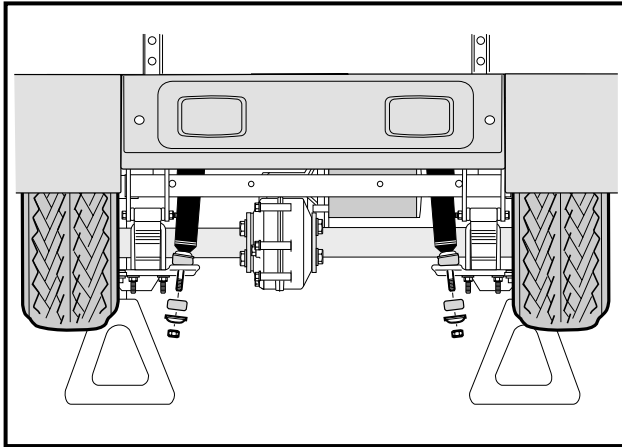
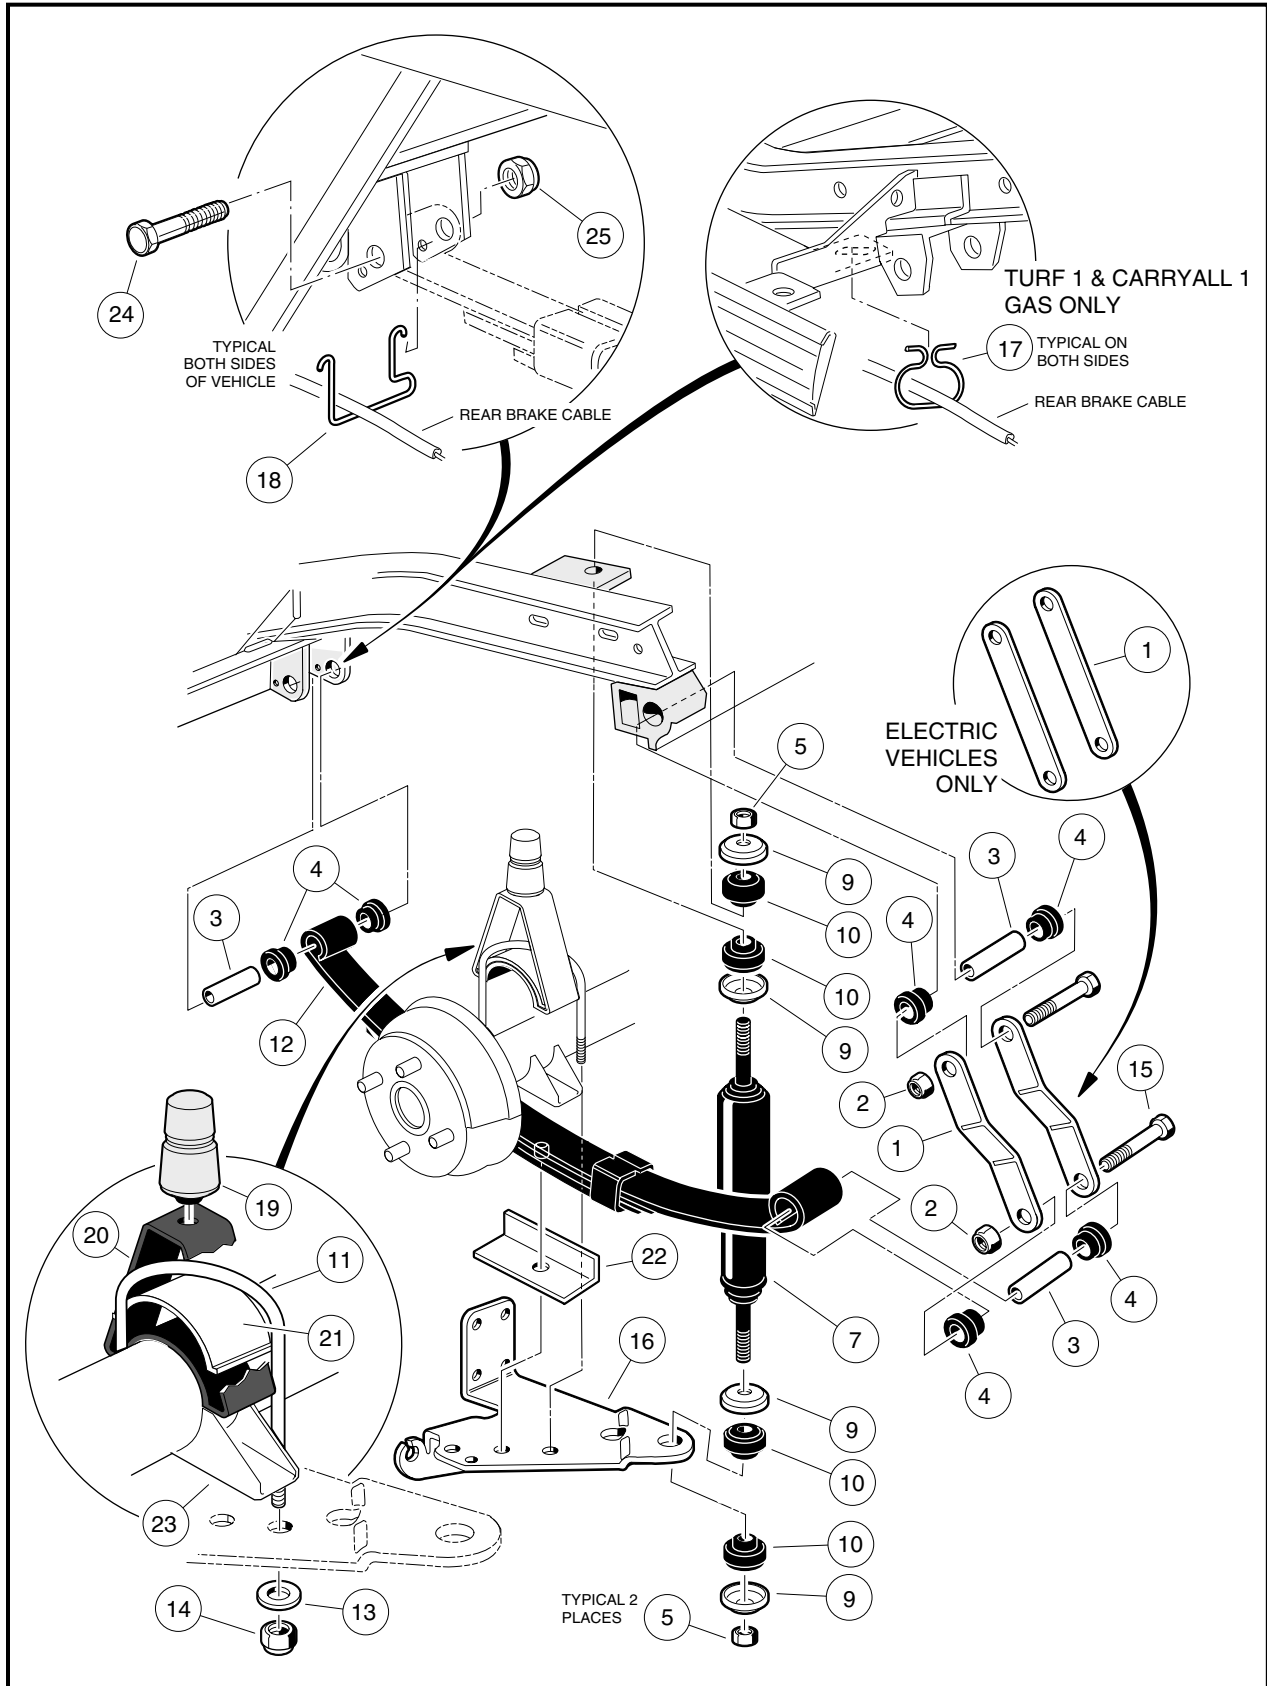
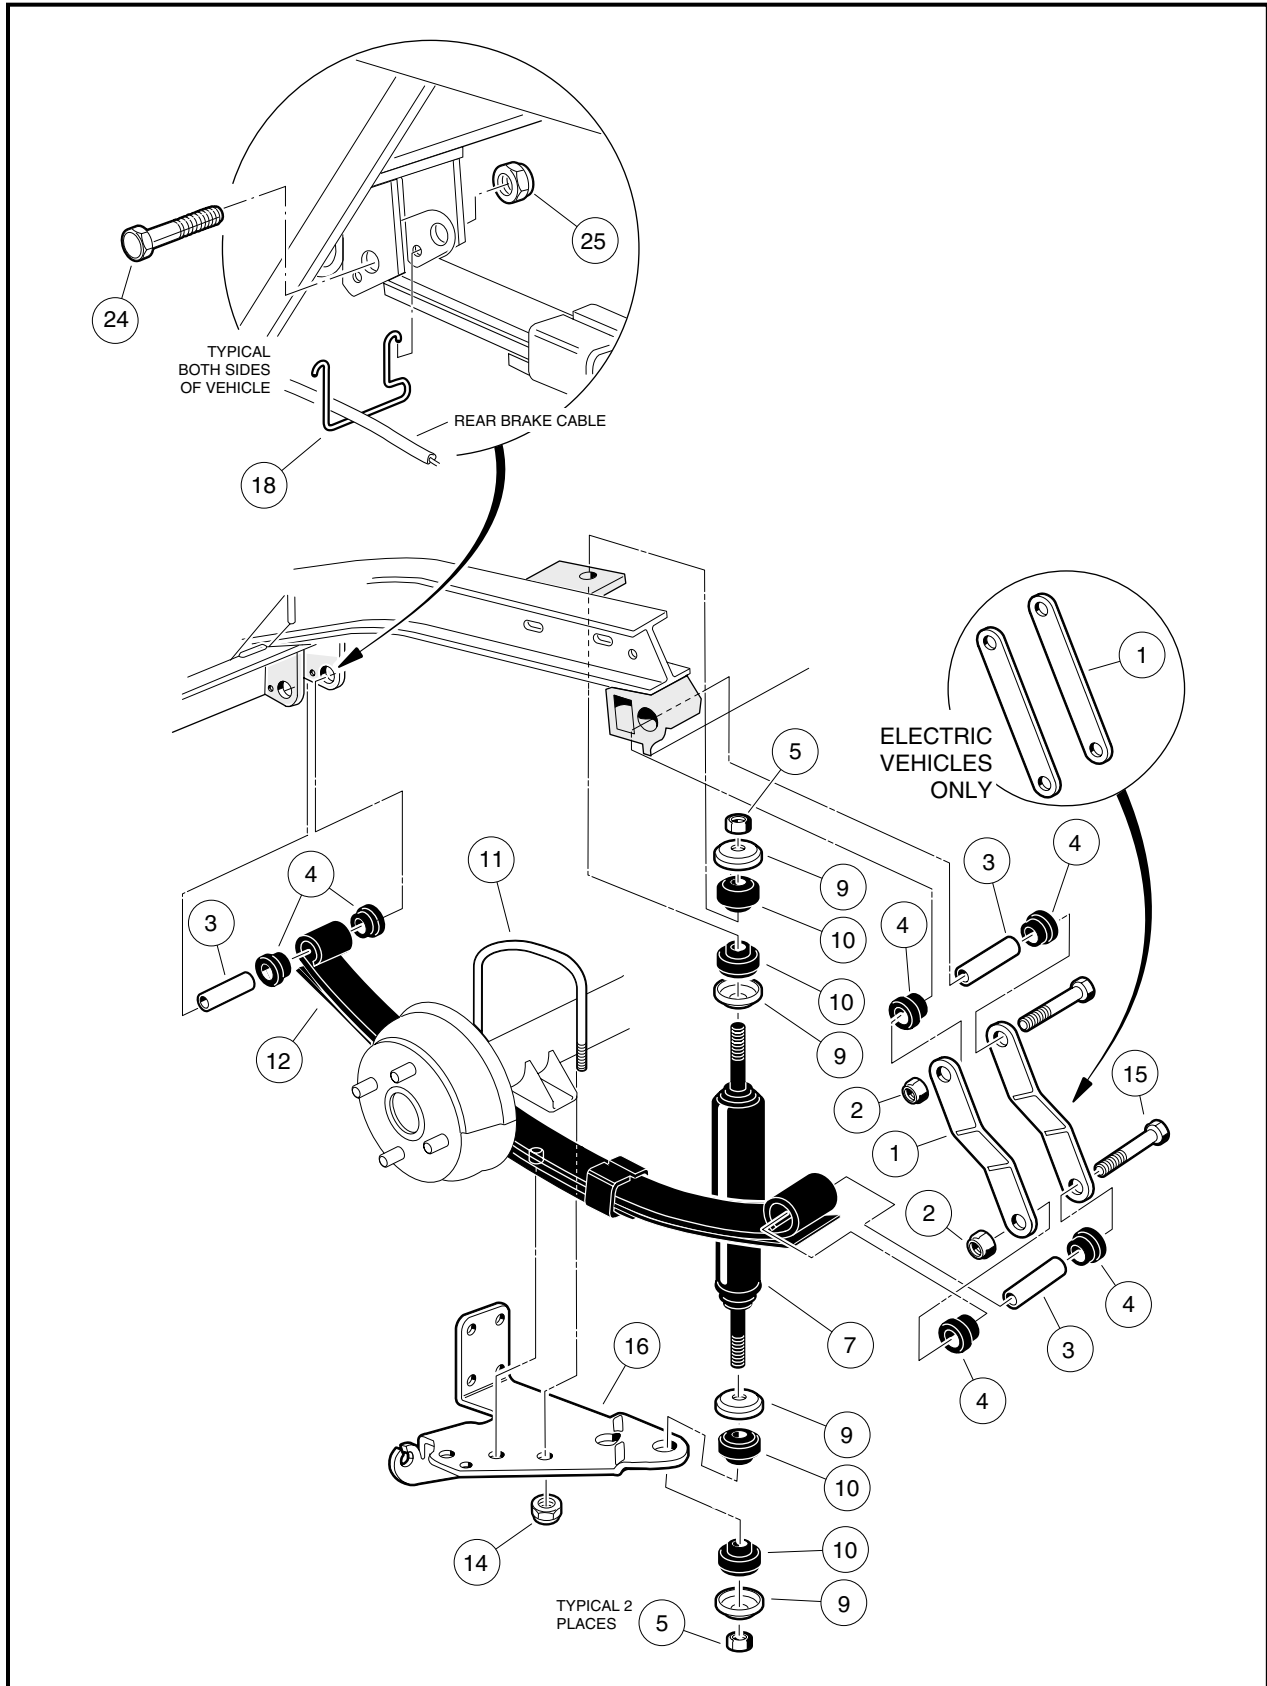

Figure 9-1 Remove Shock Absorbers
Figure 9-3 Rear Suspension – Turf 1 and Carryall 1 Vehicles
Figure 9-4 Rear Suspension – All Turf and Carryall Vehicles Except Turf 1 and Carryall 1
1. Check shock absorbers (7) for damage and fluid leakage around the lower housing of the shock absorber body. Replace damaged or leaking shock absorbers (**Figure 9-3, Page 9-6 or Figure 9-4, Page 9-7**).
2. To remove a shock absorber (7), remove the nut (5), cup washer (9), and rubber bushing (10) from the upper shock absorber stem.
3. Remove lower mounting hardware (5, 9 and 10) on shock absorber lower mount (**Figure 9-3, Page 9-6** or **Figure 9-4, Page 9-7**). See also **Figure 9-1, Page 9-3**.
2. On the upper shock absorber mount, tighten nut (5) until rubber bushing (10) expands to size of cup washer (9) (**Figure 9-3, Page 9-6** or **Figure 9-4, Page 9-7**).
3. On the lower shock absorber mount, install mounting hardware. Tighten the nut (5) until the rubber bushing (10) expands to the same diameter as the cup washer.
**NOTE:** Turf 1 and Carryall 1 vehicles are equipped with jounce bumpers (**Figure 9-3, Page 9-6**).
5. Remove lower nut (5), cup washer (9), and rubber bushing (10) from shock absorber (7) (**Figure 9-3, Page 9-6 or Figure 9-4, Page 9-7**).
- 6.1. Remove the lock nuts (14) and flat washers (13) (if present) attaching the U-bolt (11) to the shock mount bracket (16). Remove jounce bumper mount (20) and spacer (21) (**Figure 9-3, Page 9-6**).
- 6.2. Allow shock mount bracket (16) to rotate downward and remove spring retainer (22). Do not disconnect brake cable from bracket (**Figure 9-3, Page 9-6**).
- 7.1. Remove the lock nuts (14) attaching the U-bolt (11) to the shock mount bracket (16). Do not disconnect brake cable from bracket (**Figure 9-4, Page 9-7**).
8. Raise axle with floor jack until axle saddle (23) is 1 inch (2.5 cm) above spring (**Figure 9-3, Page 9-6**).
9. Remove bolt (15) and lock nut (2) attaching the leaf spring (12) to the rear shackle (1) (**Figure 9-3, Page 9-6 or Figure 9-4, Page 9-7**).
10. Allow rear of leaf spring (12) to rest on the ground and remove the bolt (24) and lock nut (25) attaching the front of the spring to the vehicle frame (**Figure 9-3, Page 9-6 or Figure 9-4, Page 9-7**). Remove spring from vehicle.
11. Inspect the rubber bushings (4) and steel sleeves (3) in the spring eyes and replace them if they are worn or damaged (**Figure 9-3, Page 9-6 or Figure 9-4, Page 9-7**).
1. Install rubber bushings (4) and steel sleeves (3) into leaf spring eyes if bushings were removed (**Figure 9-3, Page 9-6 or Figure 9-4, Page 9-7**).
2. Place front of leaf spring (12) into vehicle frame and insert bolt (24) through frame and leaf spring eye. Install lock nut (25) and tighten to 15 ft-lb (20.3 N·m).
3. Align the other end of leaf spring with the holes in the spring shackles (1). Insert bolt (15) through leaf spring eye and shackles. Install lock nut (2) and tighten to 15 ft-lb (20.3 N·m). Lower transaxle onto leaf spring (12).
- When placing transaxle on spring, be sure to position locating bolt on the spring in the locating hole in the transaxle saddle (23) (**Figure 9-3, Page 9-6**).
- 4.1. Install spring retainer (22) and shock mount bracket (16) onto locating bolt at bottom center of leaf-spring (**Figure 9-3, Page 9-6**). See preceding **CAUTION**.
- 4.2. Position jounce bumper mount (20) with spacer (21) onto axle tube. Install U-bolt (11), flat washers (13) (if present), and lock nuts (14). Tighten U-bolt to 25 ft-lb (34 N·m) (**Figure 9-3, Page 9-6**).
- 5.1. Install shock mount bracket (16) onto locating bolt at bottom center of leaf-spring (**Figure 9-4, Page 9-7**). See preceding **NOTE**.
- 5.2. Install U-bolt (11) and lock nuts (14). Tighten U-bolt to 25 ft-lb (34 N·m) (**Figure 9-4, Page 9-7**).
1. Grip jounce bumper (19) and pull from bumper mount (20) (**Figure 9-3, Page 9-6**).
1. Insert jounce bumper (19) into bumper mount (20) (**Figure 9-3, Page 9-6**). Make sure the entire circumference of bumper is seated firmly in mounting hole.